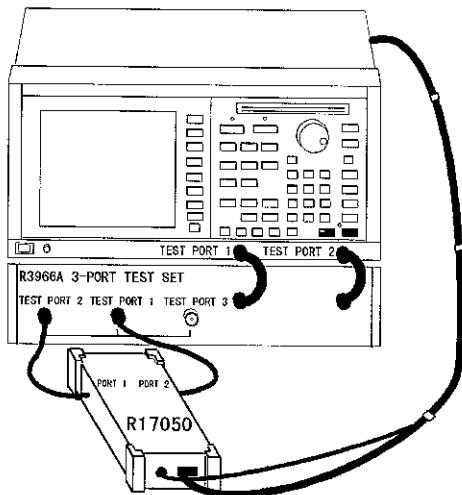

Figure 2-7 RF Port Connection
4. Connect the RF ports of the instrument to the test ports of the network analyzer (see Figure 2-7), using the cable that is actually used to measure the DUT.